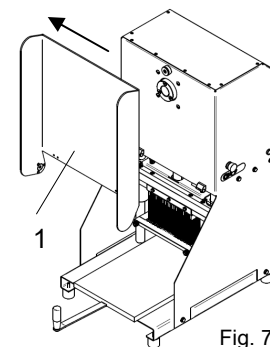

Fig. 7.2.1
7.3.1 Removing the plexiglass cover (Fig. 7.2.1)
7.3.1 - Removing the plexiglass cover (Fig. 7.2.1)